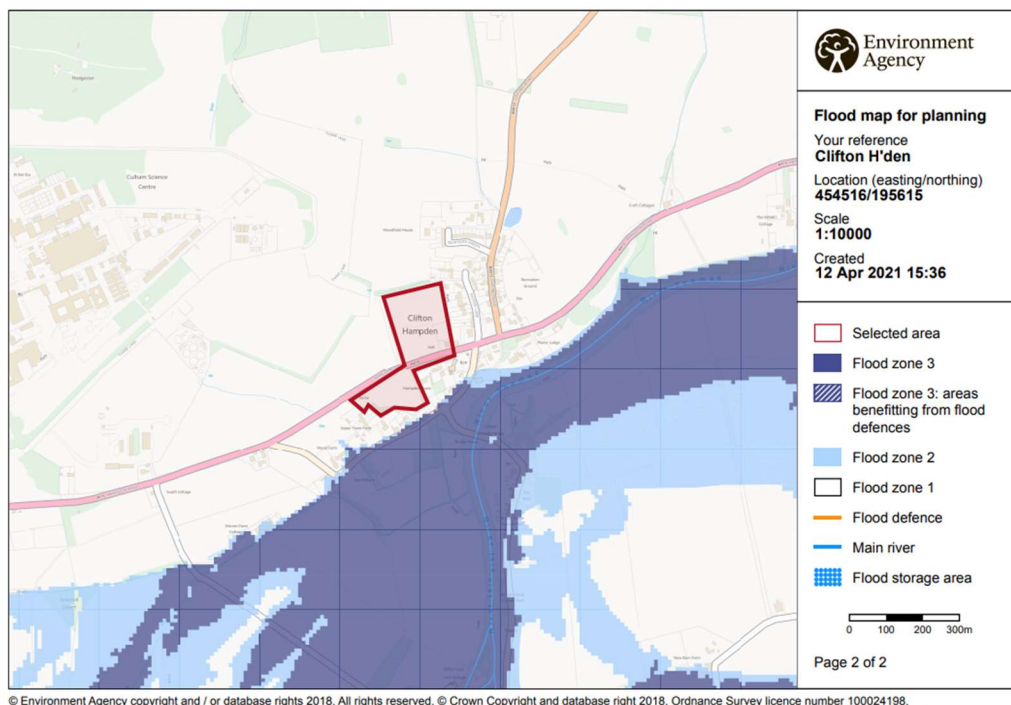

Figure 2.1: Site Locations and Flood Zones (gov.uk flood map)
- 2.2.2 The Site is located entirely within Flood Zone 1, representing areas with a low probability of flooding from nearby watercourses. An extract of the *Long Term Flood Risk Map for England* (gov.uk) shows the Site in relation to adjacent Flood Zones 2 and 3, presented in Figure 2.1.